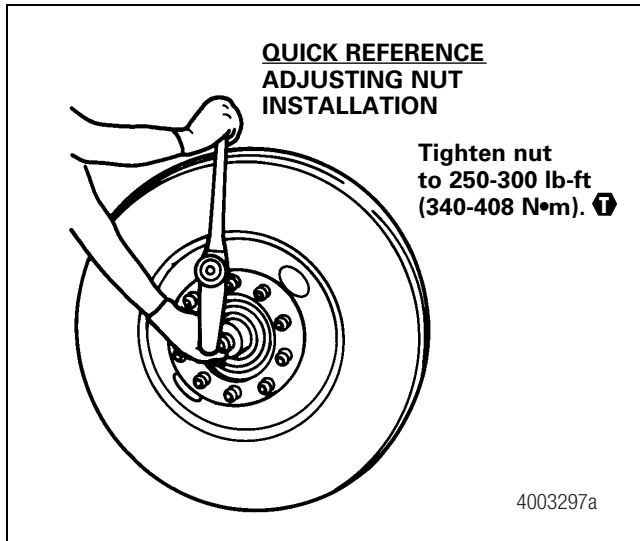

Figure 11.3
1. Install the adjusting nut and tighten it to 250-300 lb-ft (340-408 N•m) while rotating the hub in both directions. Figure 11.3. **ⓘ**